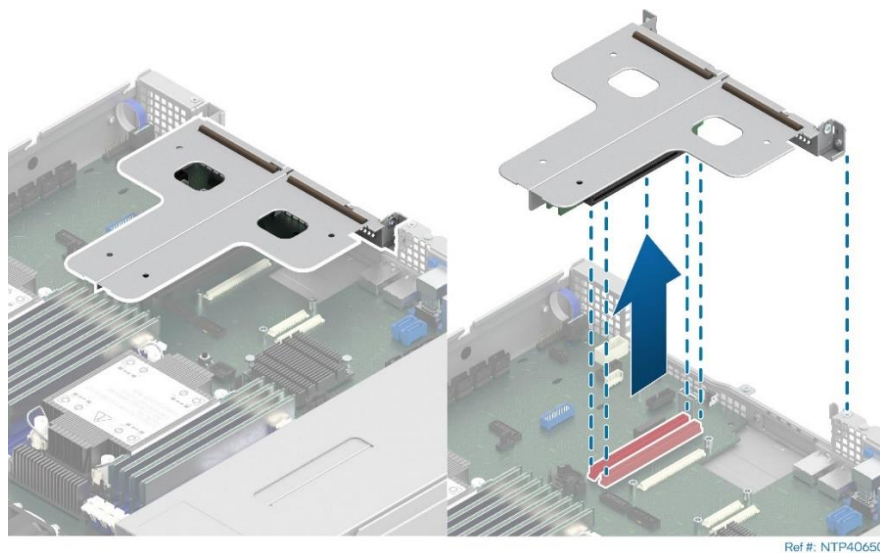

Figure 76. Riser Card Bracket Removal
4. Remove the riser card assembly from the system (see Figure 76).
4. Remove the riser card assembly (see Figure 76).